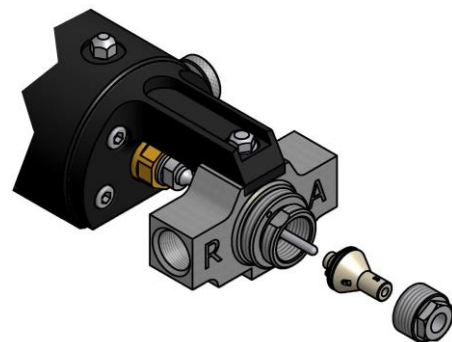

Figure. 11
12. Remove the mixing module from its housing and clean it with gun-cleaning solvent. If the product holes are blocked, clean them with the drills supplied along with the module (see **Figure. 11**).
9. Unscrew the module tightening nut by turning it anti-clockwise (see **Figure. 11** page 14).
10. Remove the mixing module from its housing and clean it with gun-cleaning solvent (see **Figure. 11** page 14).